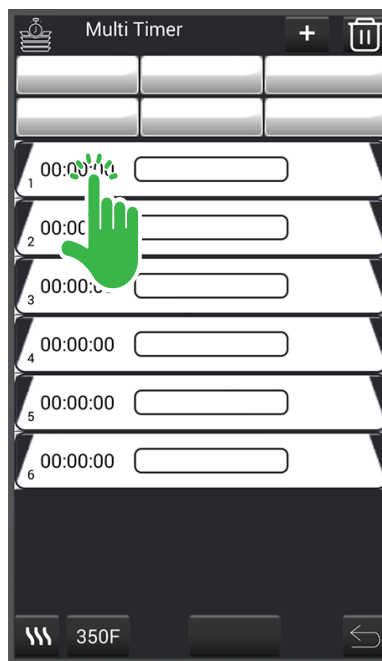
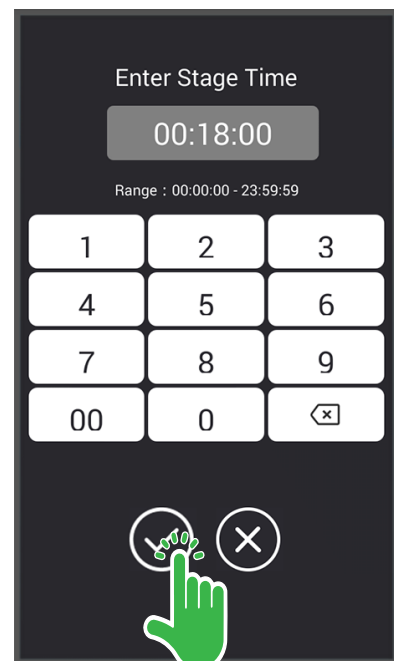

Fig. 50
Fig. 51
2. Touch the time section (Fig. 50) of the rack position and enter the desired time on the **Multiple Timer Adjustment Screen** (Fig. 51). Touch OK.